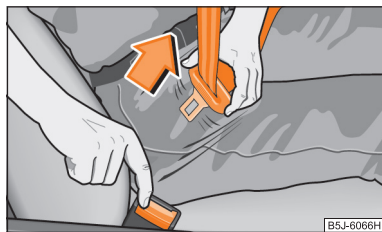

Fig. 113 Releasing lock tongue from belt lock
- Press the red button in the belt lock ⇒ fig. 113. The spring force causes the tongue of the lock to jump out.